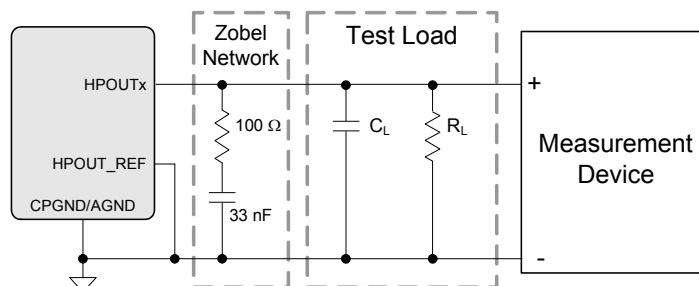
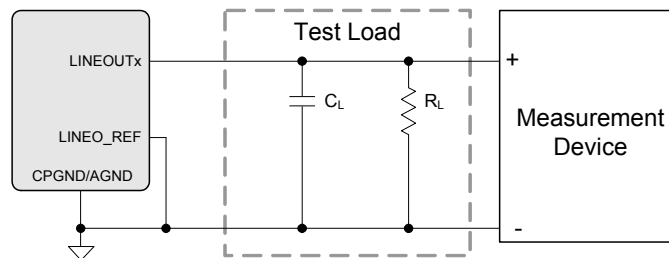

Figure 5. Headphone Output Test Configuration
Figure 6. Line Output Test Configuration
Test conditions (unless otherwise specified): “Typical Connection Diagram” on page 17 shows CS42L73 connections (including Zobel Networks on outputs); Input test signal is a 24-bit full-scale 997-Hz sine wave with 1 LSB of triangular PDF dither applied; GND = AGND = PGND = CPGND = DGND = 0 V; all voltages are with respect to ground (GND); VA = VCP = 1.80 V; TA = +25 °C; VCP Mode; Measurement Bandwidth is 20 Hz to 20 kHz; Fs = 48 kHz (Note 10); ASP is used and is in slave mode with F_{s,ext} = 48 kHz; test loading is configured as per Figure 5 on page 28 (R_L and C_L (= C_{L(Max)}) as indicated in the table below); Mixer Attenuation and Digital Volume = 0 dB, Digital and Analog Mutes are disabled.
Test conditions (unless otherwise specified): “Typical Connection Diagram” on page 17 shows CS42L73 connections (including Zobel Networks on outputs); Input test signal is a 24-bit full-scale 997-Hz sine wave with 1 LSB of triangular PDF dither applied; GND = AGND = PGND = CPGND = DGND = 0 V; all voltages are with respect to ground (GND); VA = VCP = 1.80 V; T_A = +25 °C; VCP Mode; Measurement Bandwidth is 20 Hz to 20 kHz; Fs = 48 kHz (Note 10); ASP is used and is in slave mode with Fs_{ext} = 48 kHz; test loading is configured as per Figure 5 on page 28 (R_L and C_L (= C_{L(Max)}) as indicated in the table below); Mixer Attenuation and Digital Volume = 0 dB, Digital and Analog Mutes are disabled.
35. Figure 5 on page 28 and Figure 6 on page 29 shows headphone and line output test configurations.
Test conditions (unless otherwise specified): Connections to the CS42L73 are shown in the “Typical Connection Diagram” on page 17; Input test signal is a 24-bit full-scale 997 Hz sine wave with 1 LSB of triangular PDF dither applied; GND = AGND = PGND = CPGND = DGND = 0 V; all voltages are with respect to ground (GND); VA = VCP = 1.80 V; T_A = +25 °C; VCP Mode; Measurement Bandwidth is 20 Hz to 20 kHz; F_s = 48 kHz (Note 10); ASP is used and is in slave mode with F_{s_ext} = 48 kHz; test loading is configured as per Figure 6 on page 29 (R_L and C_L as indicated in the table below for R_{L(Min)} and C_{L(Max)}); Mixer Attenuation and Digital Volume = 0 dB, Analog Gain = +2 dB; Digital and Analog Mutes are disabled.